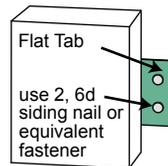

Figure 20
**Step 2:** For wood frame construction, attach the trim to the building using 2, 6d siding nails fastened through the Flat Tabs. ET&F or equivalent fasteners may be used to attach the Flat Tabs to steel frame construction. (Figures 20)